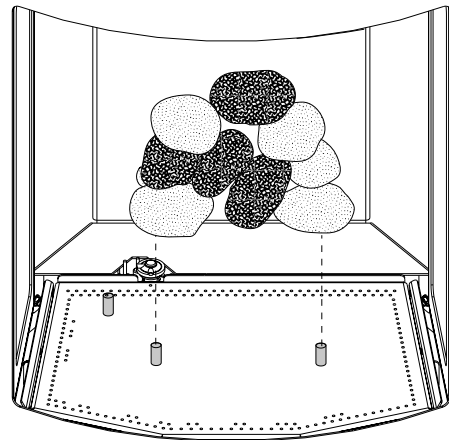

Figure 7.12. Set River Rock assembly on pins.
1. Engage the River Rock bed with the two center burner pins as shown in fig. 7.12. Either side of the rocks may face outward as desired.